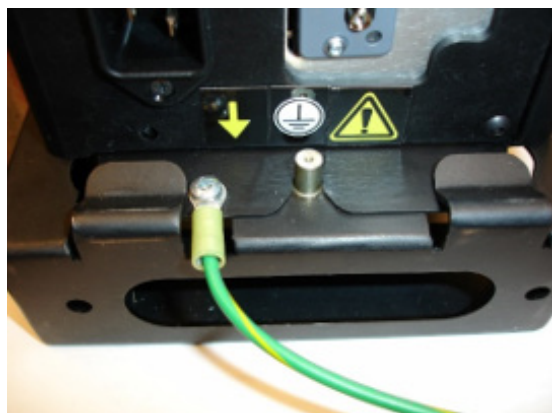

Figure 1 — Redundant Earth Ground Attachment
**Step 5:** The Redundant Earth Ground (required) must be connected to ground using the #14 AWG conductor, a green wire with a yellow stripe. Attach using a #10-14AWG ring terminal and #10 star washer (Figure 1).